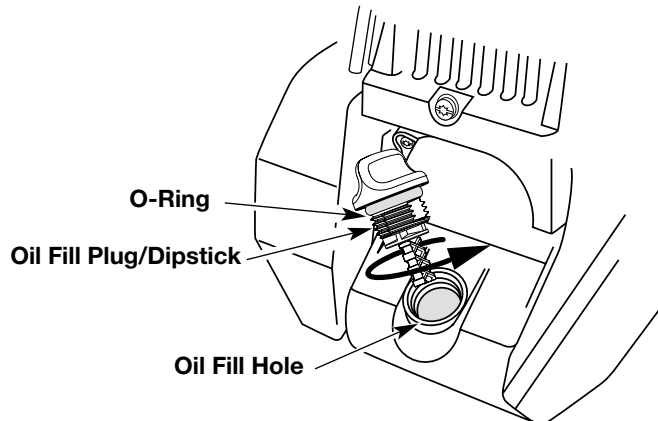

Fig. 29
6. If the level is low, add a small amount of oil to the oil fill hole and recheck (Fig. 29). Repeat until the oil level reaches the top of the dipstick.
NOTE: Make sure the O-ring is in place on the oil fill plug/dipstick when checking and changing the oil (Fig. 29).